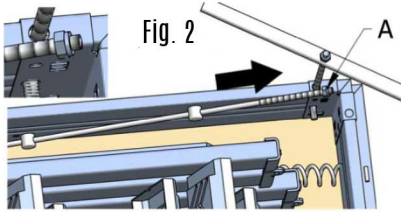

Fig. 2
Montare la chiusura a grillo sul pannello truciolare. Accertarsi che il grillo in plastica entri correttamente nell'asola di chiusura. (Fig. 2)
Assemble the cricket lock on the chipboard panel. Make sure that the plastic cricket fits correctly in the hole of the locking mechanism (Fig. 2)
With the ladder on the ground, operate with a specific wrench on the nut (A) shown in Figure 2 bringing it to the maximum opening, making sure you leave the passage of three free threads.